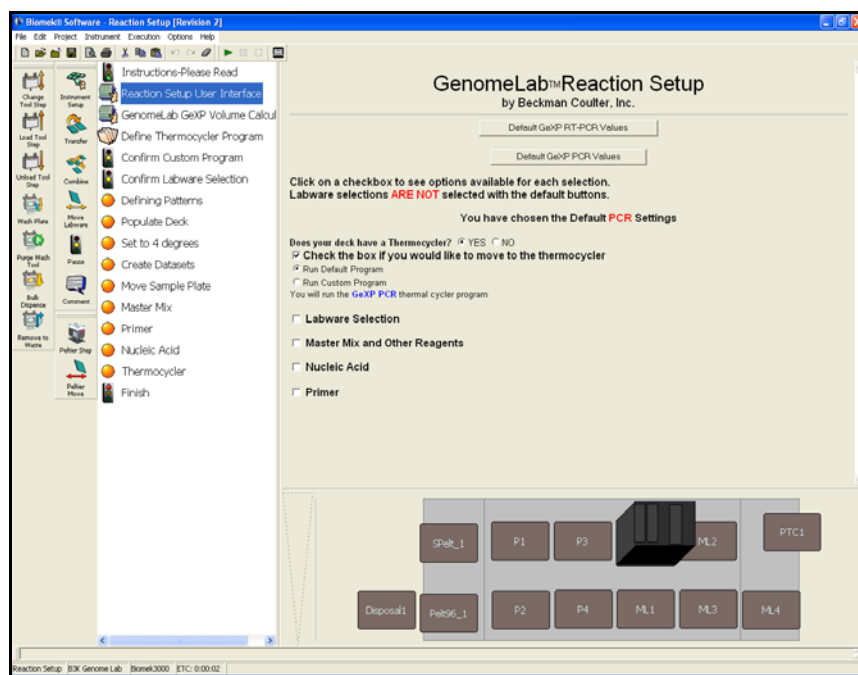

Figure 1-8. Quant and Norm User Interface step
7. Select the **Reaction Setup User Interface** step (Figure 1-8).